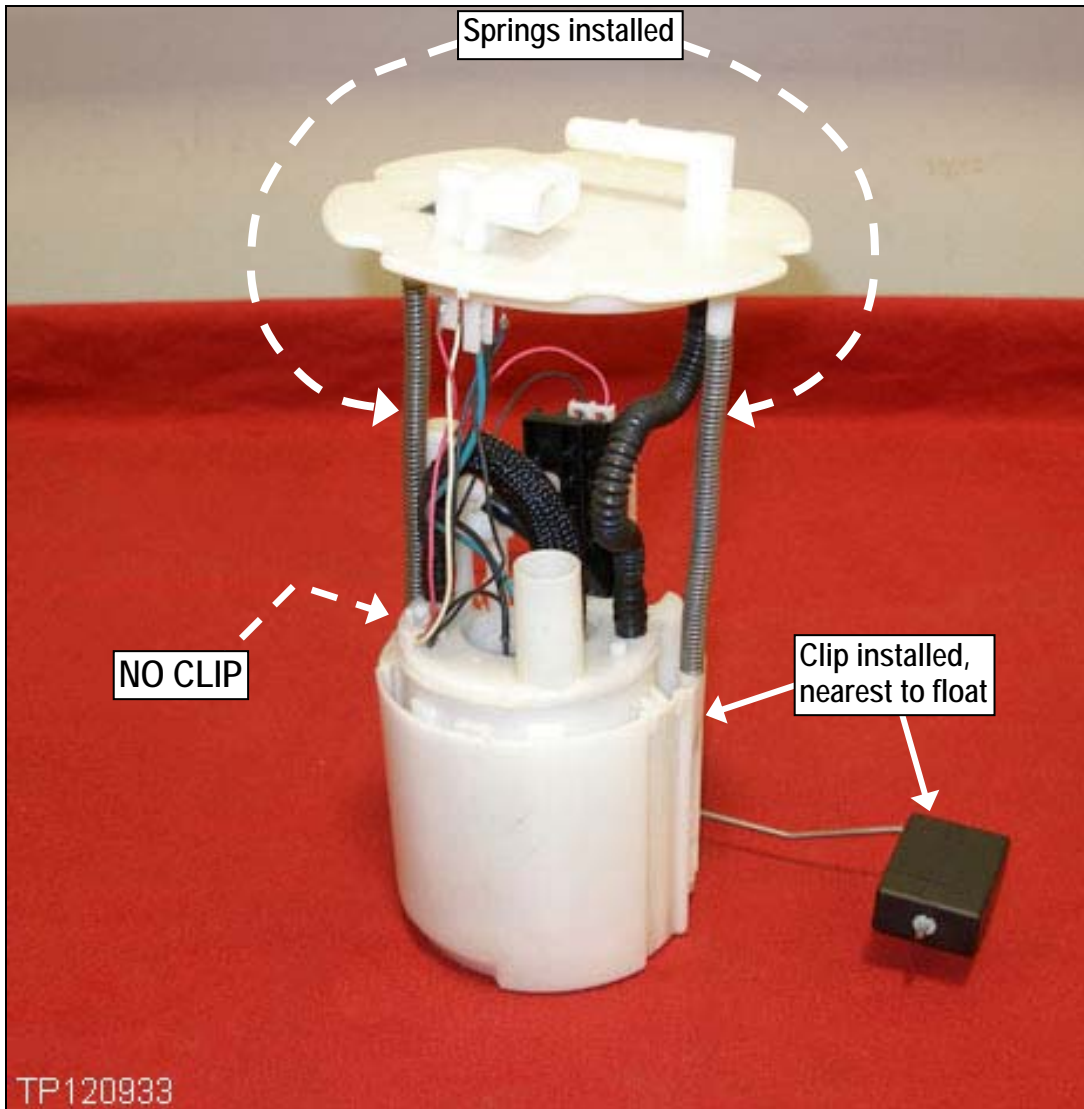

Figure 5: Fully assembled, viewed from backside.
5. Reinstall the clip at its original location, nearest to the float (see next page, Figure 5).